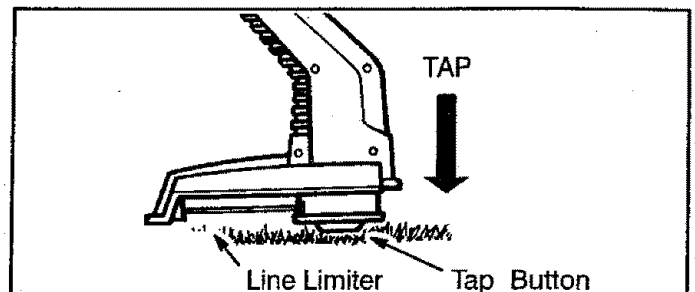

Figure 6.
## TRIMMER LINE ADVANCE (Fig. 6)
- Tap semi-automatic head lightly on the ground one time. Approximately 1-1/2 to 3 inches of line will be advanced after each tap. Figure 6.